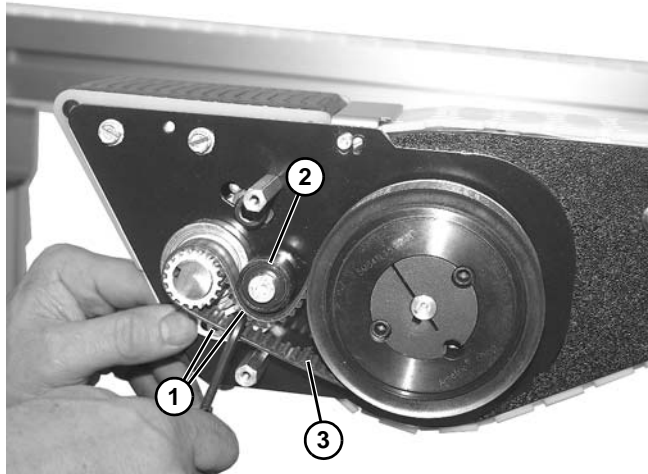

Figure 161
2. Loosen two socket head screws (**Figure 161, item 1**) holding tensioning pulley (**Figure 161, item 2**) onto timing belt (**Figure 161, item 3**).
3. Remove timing belt (**Figure 161, item 3**) from assembly.